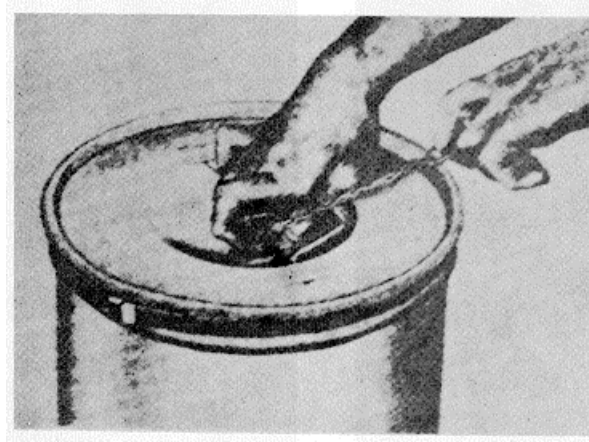

Figure 10. Firing the M4A2 HC floating smoke pot.
b. Operation and Functioning. Remove the quick-release clamp and outer cover, exposing the fuze. Hold the safety lever (fuze lever) firmly against the fuze body and withdraw the safety pin (fig. 10). Lift the pot by its handle and drop it into the water releasing the safety lever. When the safety lever is released, the striker, driven by the striker spring, hits the primer. The primer ignites the first-fire charge which in turn ignites the delay charge. After 1.2 to 2 seconds, the delay charge ignites the ignition charge, completing the fuze action. Flame from the ignition charge travels through the igniter tube to the starter mixture which in turn ignites the HC filling. Pressure builds up inside the pot and blows off the adhesive tape covering the vents in the inner cover. Total delay time from release of the safety lever until smoke production begins is 10 to 20 seconds. The smoke pot burns for 10 to 15 minutes.